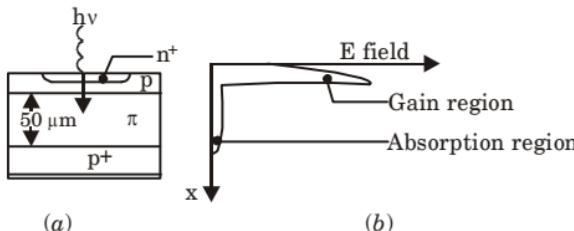

Fig. 8. (a) Structure of a silicon RAPD. (b) The field distribution in the RAPD showing the gain region across the $p-n^+$ junction.
1. The silicon reach through APD consist of $p^+ - \pi - p - n^+$ layers as shown in a Fig. 8.
2. In the Fig. 8(b), the high field region where the avalanche multiplication takes place is relatively narrow and centred on the $p-n^+$ junction.